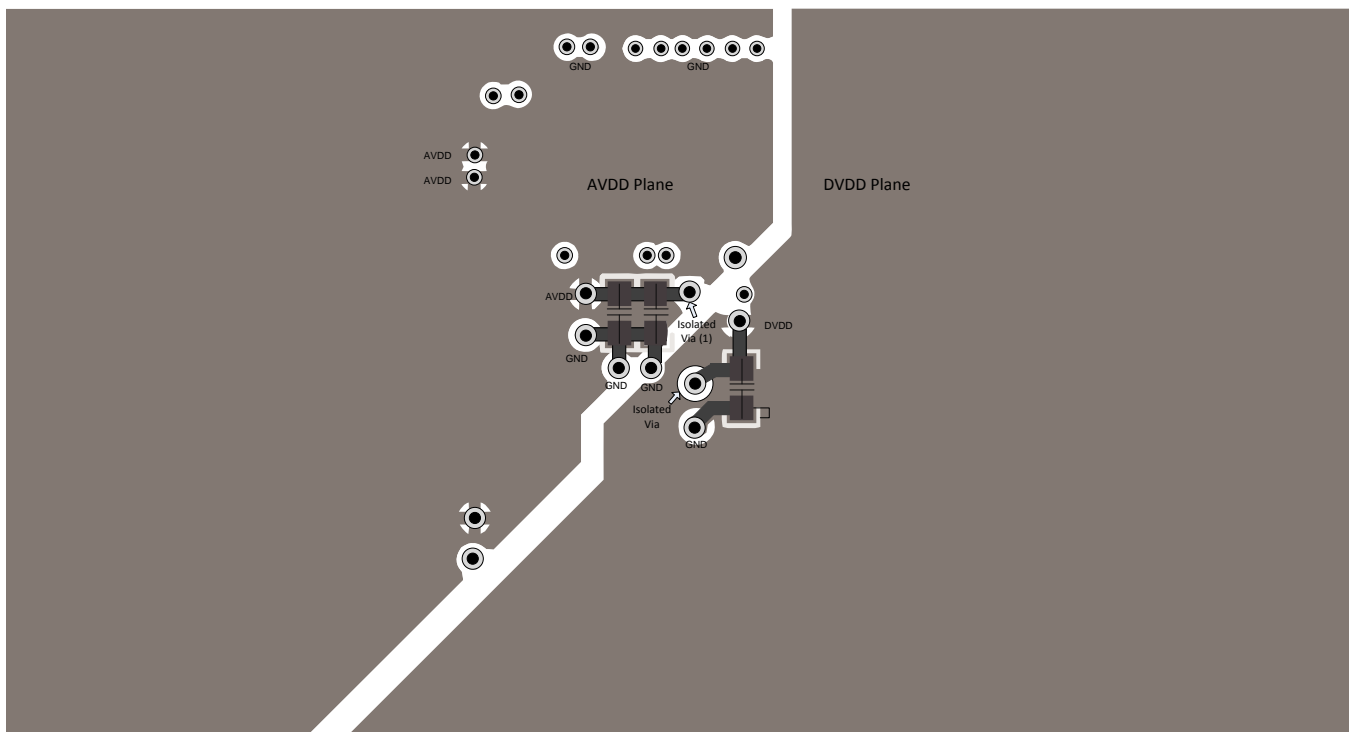

图 91. Bottom Layer Layout
- Power sources to the ADS8598H must be clean and well-bypassed. As a result of dynamic currents during conversion, each AVDD must have a decoupling capacitor to keep the supply voltage stable. Use wide traces or a dedicated analog supply plane to minimize trace inductance and reduce glitches. Using a 1- μ F, X7R-grade, 0603-size ceramic capacitor is recommended in close proximity to each analog (AVDD) supply pin. Bypass capacitors for AVDD pins 1 and 48 are located on the top layer; see 图 90. AVDD supply pins 37 and 38 are connected to bypass capacitors in the bottom layer using an isolated via (1); see 图 91. A separate via (2) is used to connect the bypass capacitor to the AVDD plane.
- For decoupling the digital (DVDD) supply pin, a 1- μ F, X7R-grade, 0603-size ceramic capacitor is recommended. The DVDD bypass capacitor is located in the bottom layer; see 图 91.